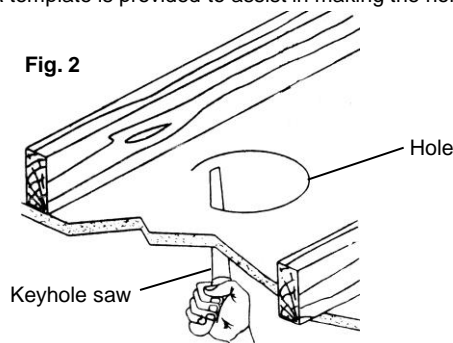

Fig. 2
1. Cut a 4 1/4" (10,8 cm) hole into the ceiling after choosing the appropriate location. A template is provided to assist in making the hole. (Fig. 2)